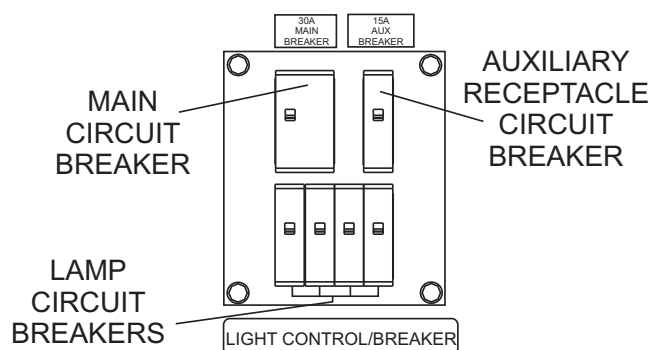

Figure 17. Control Panel Circuit Breakers
The main circuit breaker (30 amps), and 4 lamp circuit breakers (15 amps each) are located on the upper control panel (Figure 17).
1. Place the main circuit breaker (Figure 17) on the control panel to the ON position.